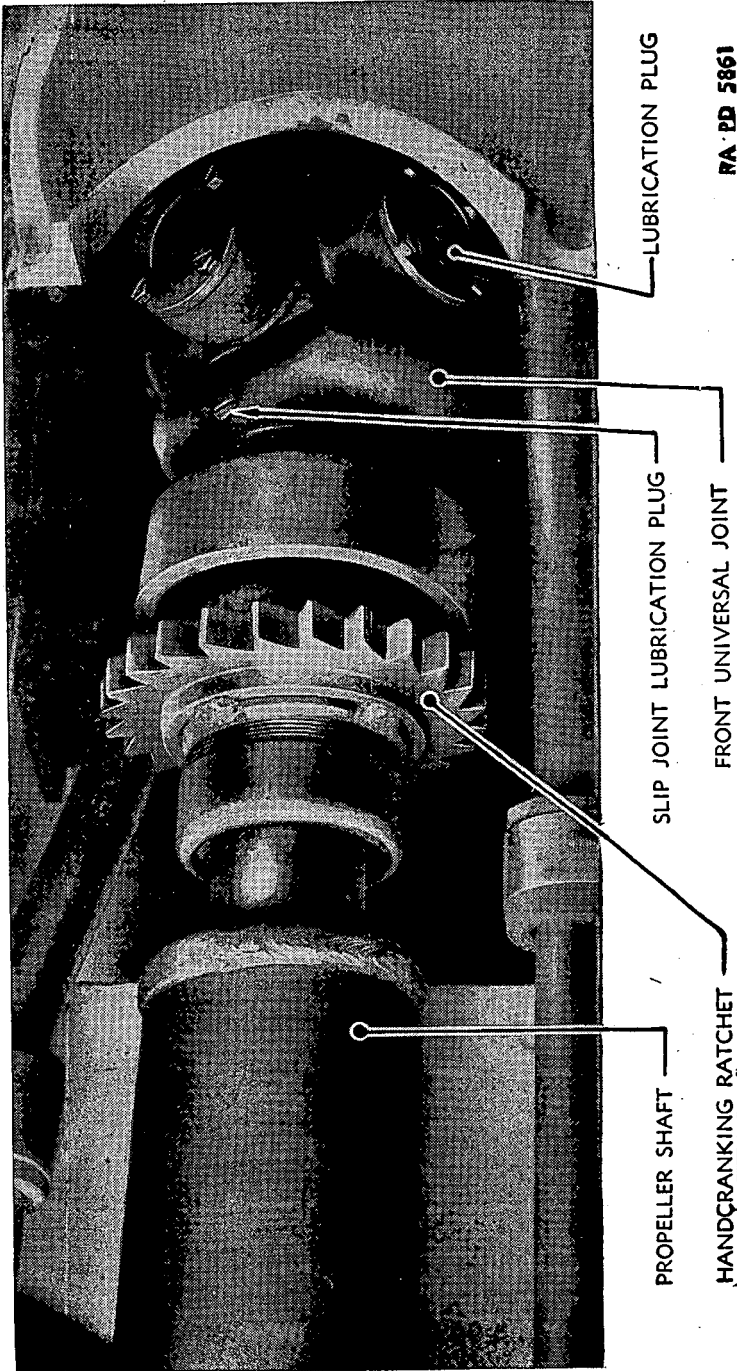

FIGURE 56.—Propeller shaft and front universal joint, Guiberson engine.
95. Description (fig. 56).—The propeller shaft transmits power from the clutch to the transmission. It is inclosed in a housing or “tunnel,” which also mounts a padded gunner’s seat. The propeller shaft is equipped with a universal joint at either end and a slip joint which permits it to be telescoped.
- a. Removal.*—(1) Remove propeller shaft housing cover.